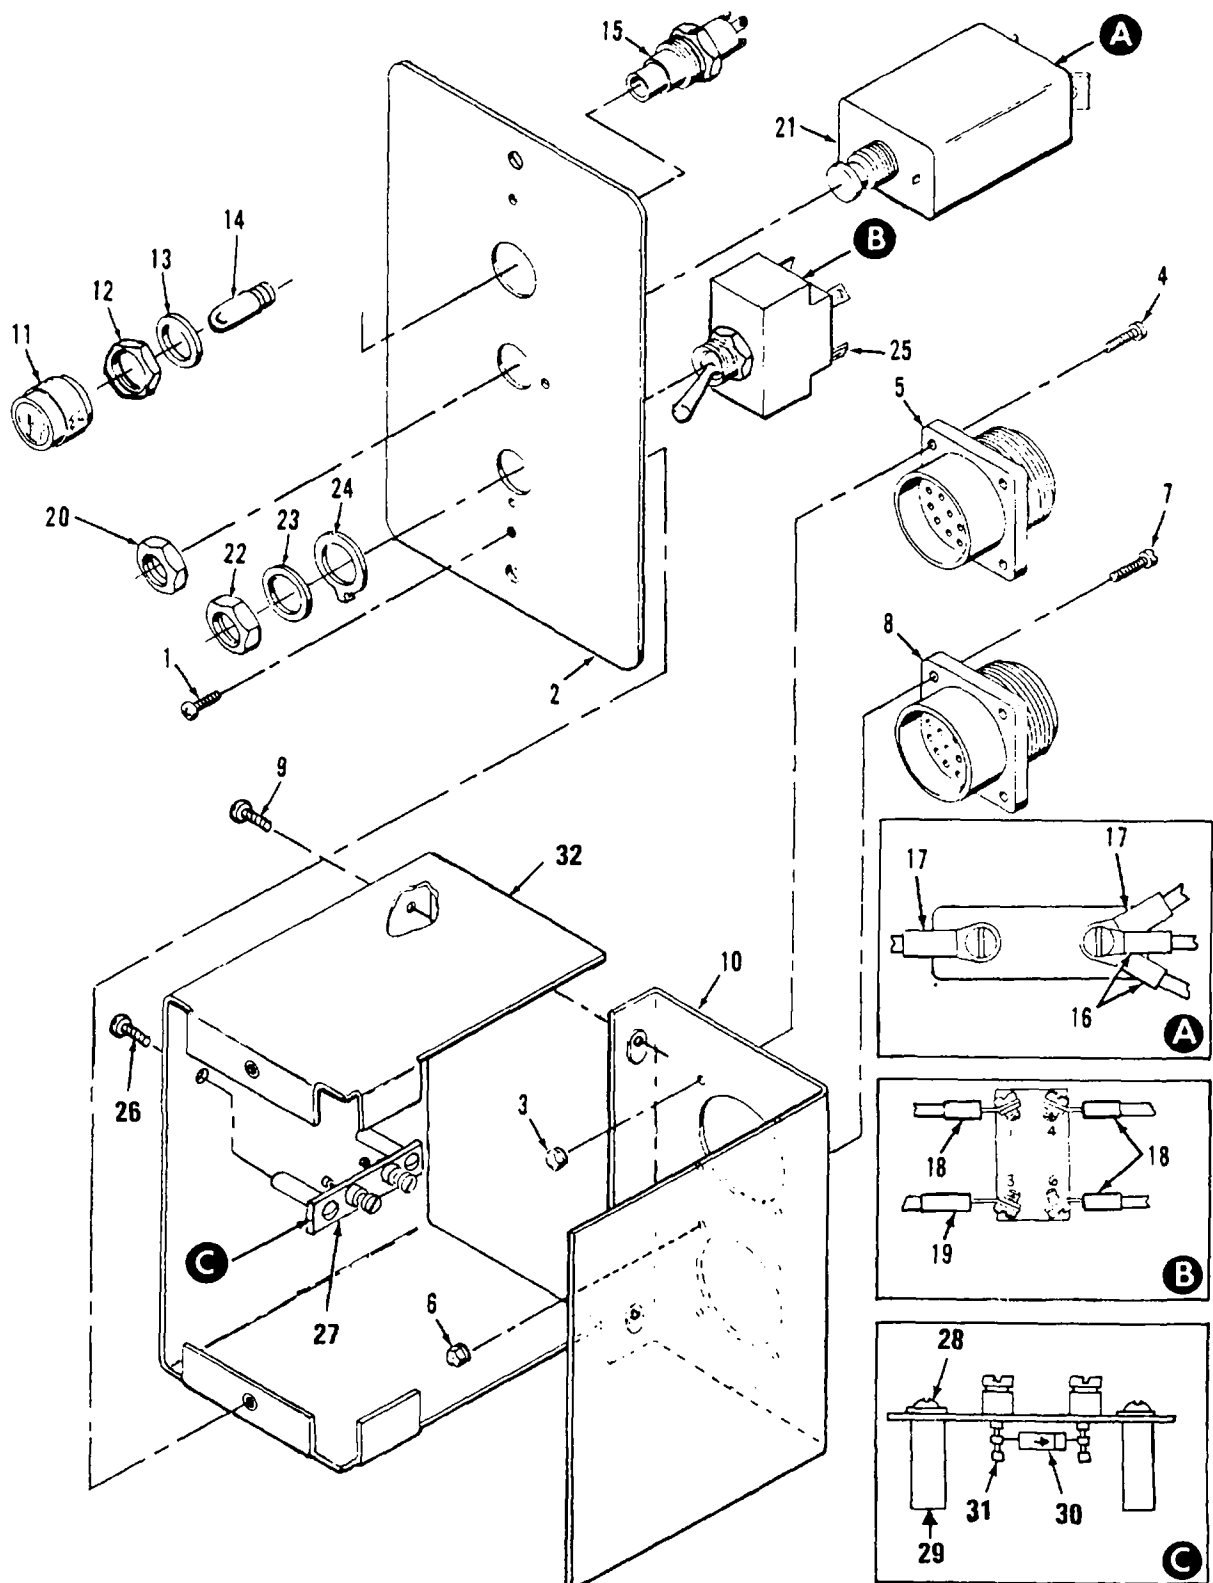

Figure 13-5. Fuel Burning Winterization Kit Control Box,
(1) Repair or replace defective control box wiring components in accordance with table 13-2.
(2) Repair dents and distortion in frame or covers.
e. Test of Circuit Breaker. Test the circuit breaker (21, figure 13-5) as follows:
(1) Using an ohmmeter set on the RX1 scale, read across the circuit breaker. With the circuit breaker in the closed position (ON), the reading should be zero ohm.
(2) Open the circuit breaker (OFF), select the RX100 scale, the meter should indicate infinity ohms.
(3) Connect the circuit breaker between a 28 V dc source and a resistive load, such that the current draw from the source is 16.73 amperes. The circuit breaker should not trip. If the circuit breaker trips, replace it.